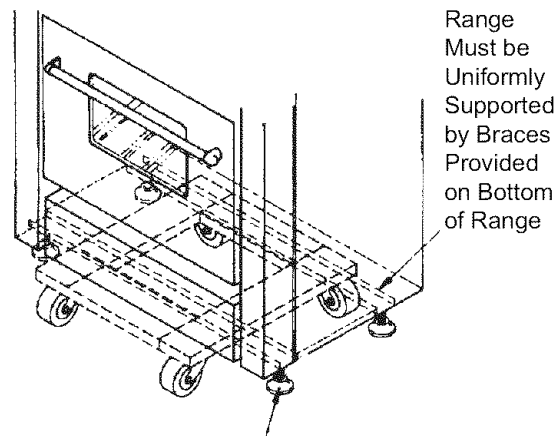

Figure 5: Dolly Positioning
- Due to the weight, a dolly with soft wheels should be used to move this unit. The weight must be supported uniformly across the bottom (See Figure 5).